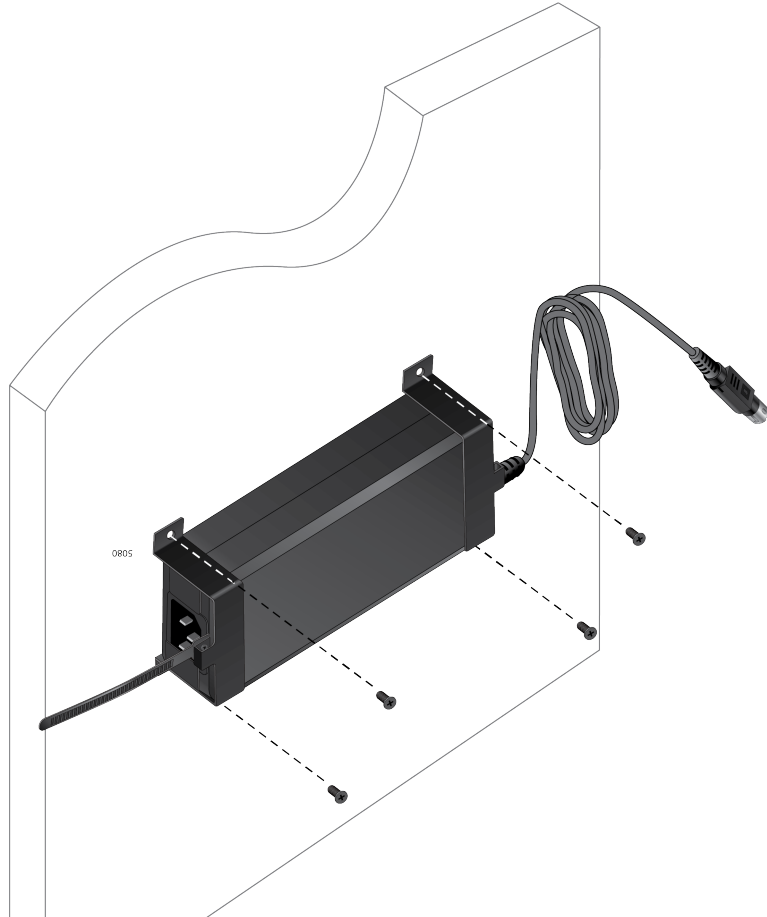

Figure 16. Installing Power Adapter on the Wall
9. Place the power adapter unit on the wall where you want to install it. See Figure 16.
10. Install the power adapter unit on the wall with the four screws using a Phillips-head screw driver as shown in Figure 16 on page 29.